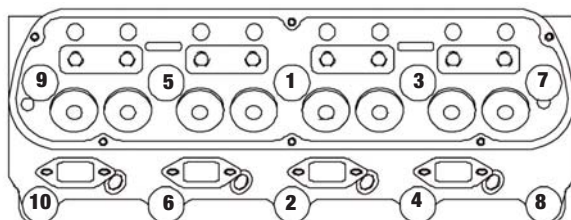

Figure 3 - Head Bolt Tightening Sequence
- Installation is the same as for original equipment cylinder heads. Consult service manual for specific procedures, if necessary. Head gasket recommendations are listed in the head gasket section. Be sure that the surface of the block and the surface of the head are thoroughly cleaned to remove any oily film before installation. Use alcohol or lacquer thinner on a lint-free rag to clean. Apply moly-oil mixture to head bolt threads, washer, and area under head bolt to prevent galling and improper torque readings. Torque to 70 ft./lbs. for 7/16" bolts (289/302) or 100 ft./lbs. for 1/2" bolts (351-W) in three or four steps following the factory tightening sequence (see Figure 3), then tighten the long (upper) head bolts to 80 ft./lbs. (7/16") or 110 ft./lbs. (1/2"). A re-torque is recommended after initial start-up and cool-down (allow 2-3 hours for adequate cooling).